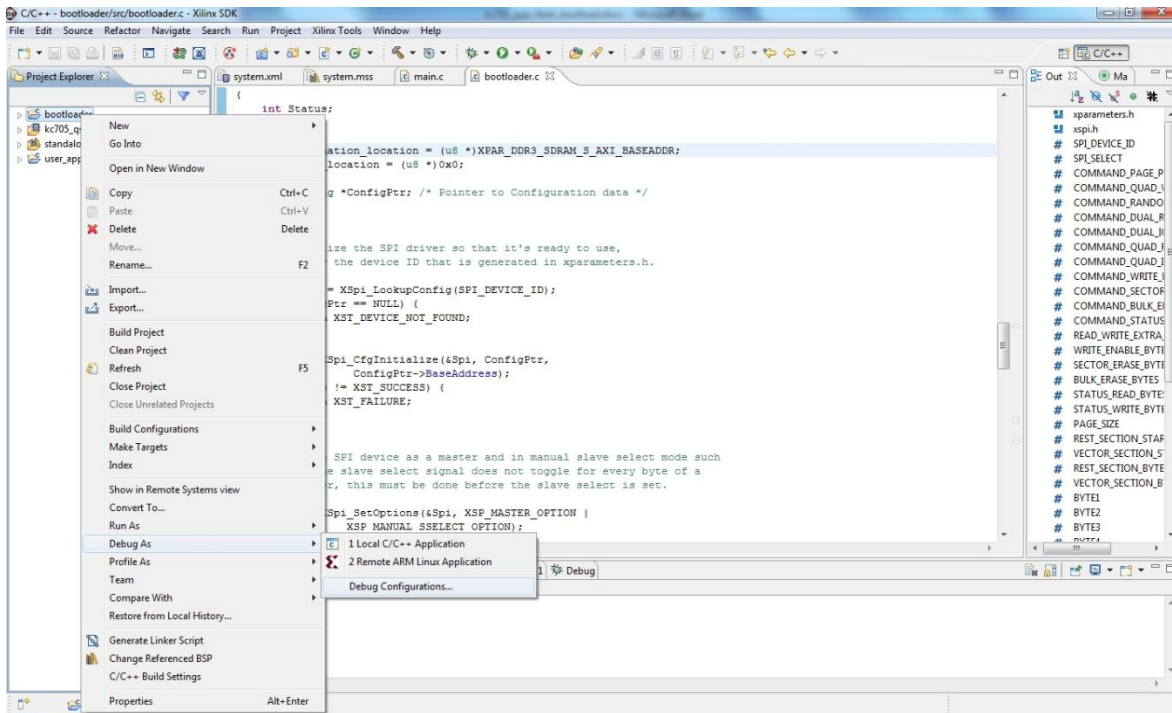

Figure 8
- a. In the SDK project explorer window, right click **bootloader** and select **debug_as > debug_configurations(Figure 8)**.